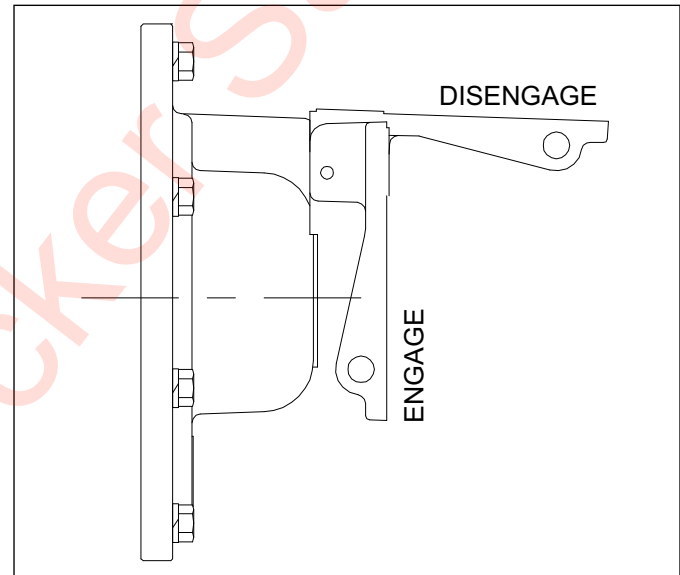

Figure 3-11: Manual Lever Kickout
2. The air freespool clutch is operated by application of air pressure to the fitting supplied on the winch gearbox housing **(See Figure 3-11.)** The fitting is designed to accept 1/4" rigid plastic tubing.